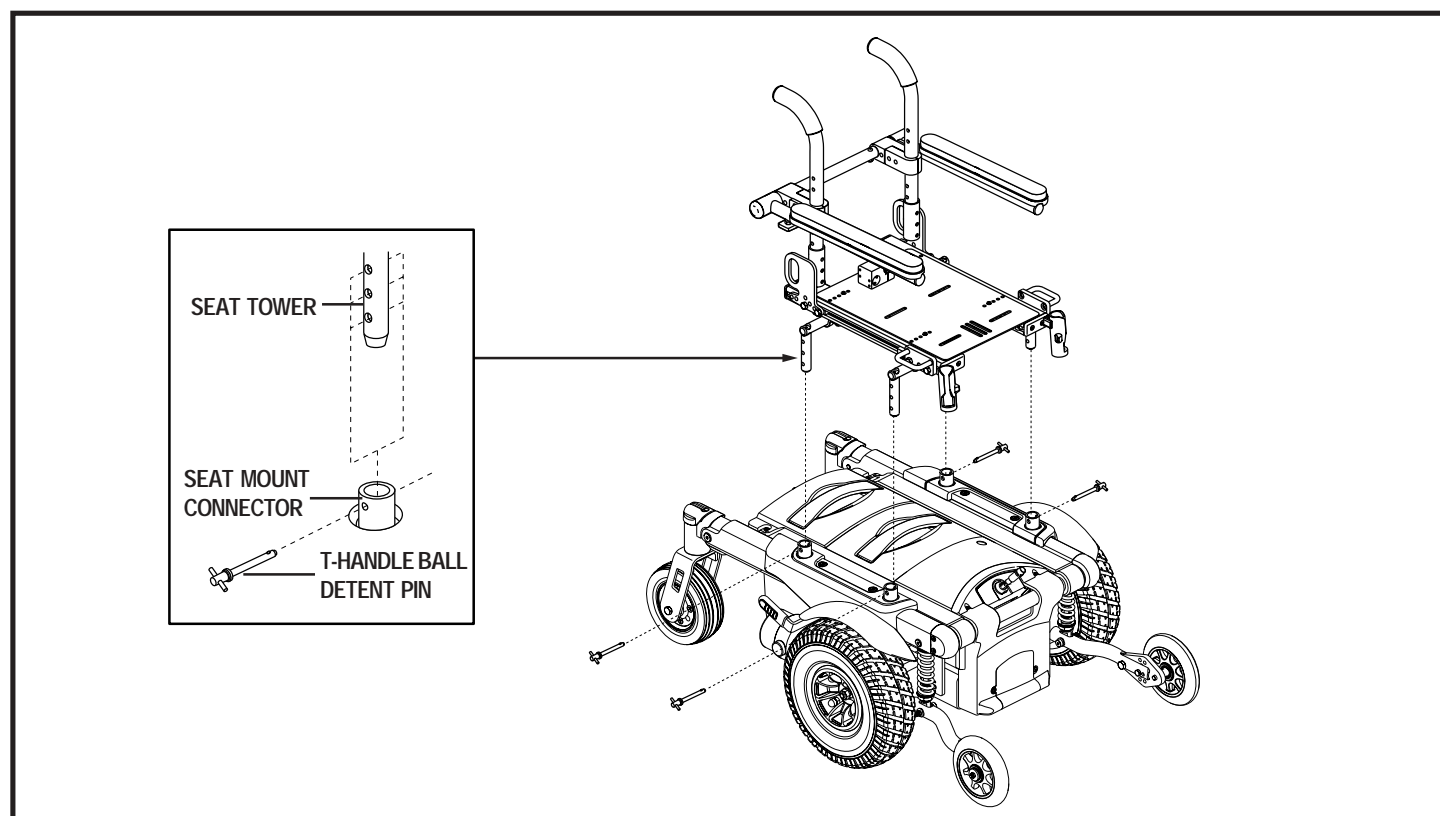

Figure 11. Seat Installation
Your power chair uses T-handle detent pins, seat towers and seat mount connectors to connect the Synergy Seat to the power base. See figure 11. For more information, refer to the manual supplied with your seating system.
1. Position the seat directly over the power base so that the seat towers line up with the seat mount connectors. See figure 11.
1. Remove the four (4) T-handle ball detent pins securing the seat to the power base.
3. Lift the seat directly up. See figure 11.